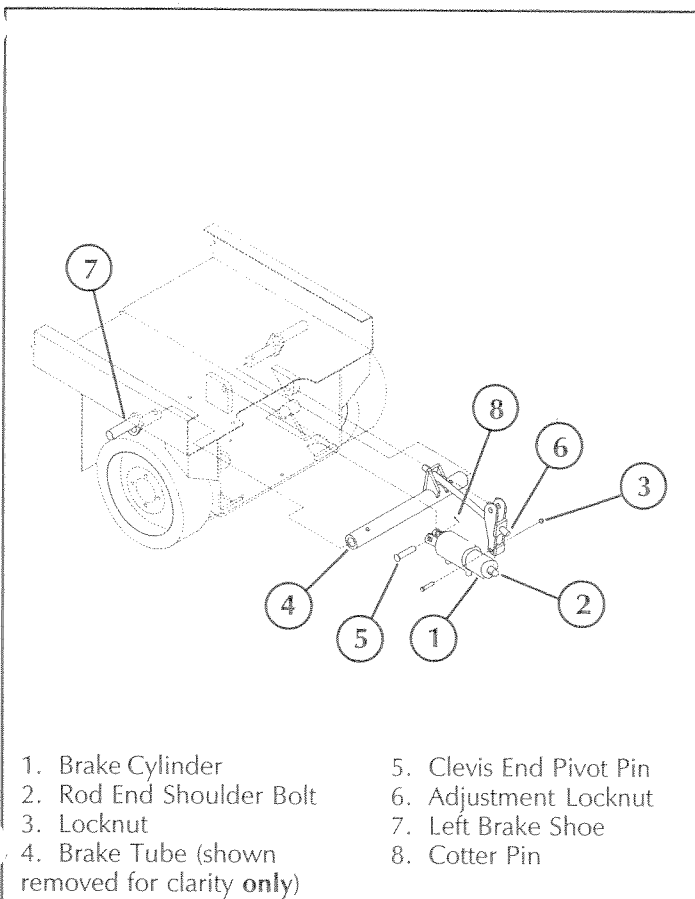

Figure 3-14: Brake Cylinder Installation
3.10 Brake Cylinder (Figure 3-14)